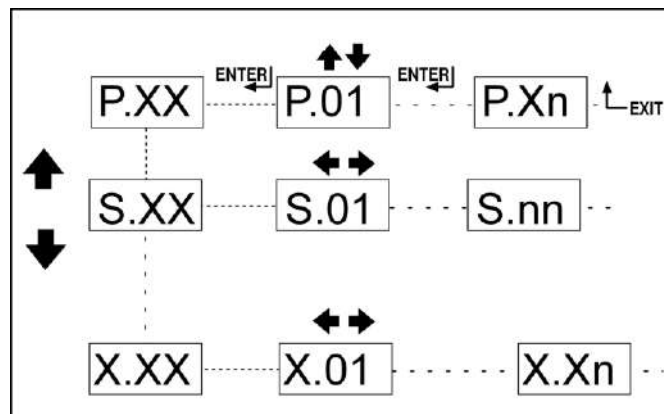

Fig. 2 - Mode navigation
5.6.3 Mode navigation (ref. to fig. 2)